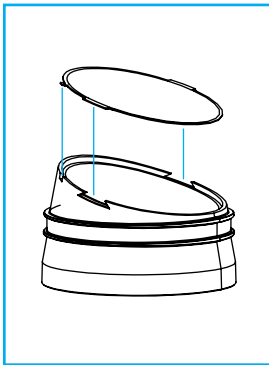

Fig.54
B. To change lens, carefully push the lens up out of the baffle. Insert preferred lens in proper orientation, and carefully press it into place *"Fig.54"*.